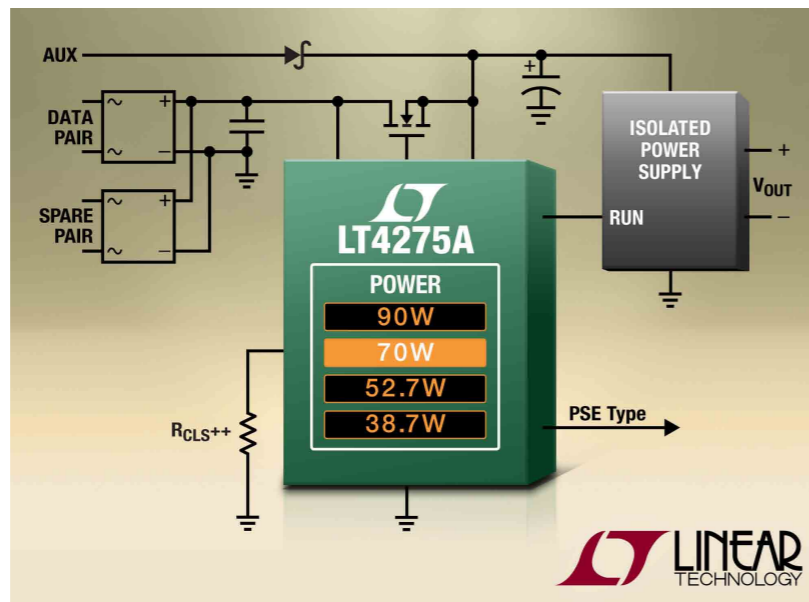

Figure 3: The LT4275 90-W PD controller uses an external MOSFET for increased power efficiency.
with the LT4275 PD controller (figure 3), a complete plug-n-play LTPoE++ system, with no LLDP required, can deliver up to 90 W while remaining fully compatible with PoE+ and PoE standards. The entire implementation uses external low-RDS(ON) MOSFETs to drastically reduce overall PD heat dissipation and maximize power efficiency, which is important at all power levels. High absolute maximum ratings on all analog pins and cost-effective cable-discharge protection ensure the devices are safe from the most common Ethernet line surges.